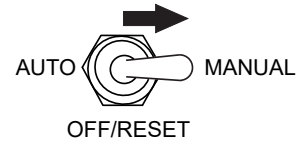

Figure 49. Auto Start/Stop Switch (Manual Position)
1. Place the **Auto Start/Stop switch** in the **MANUAL** position to start the engine (Figure 49).